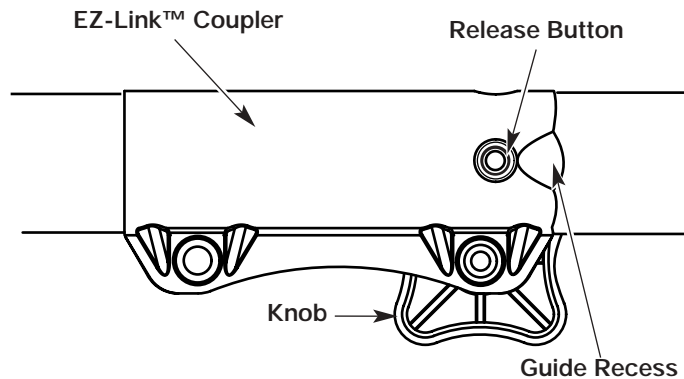

Fig. 9
1. Turn the knob counterclockwise to loosen (Fig. 9).
2. Press and hold the release button (Fig. 9).
1. Turn knob counterclockwise to loosen (Fig. 9).
- NOTE:** Aligning the release button with the guide recess will help installation (Fig. 9).